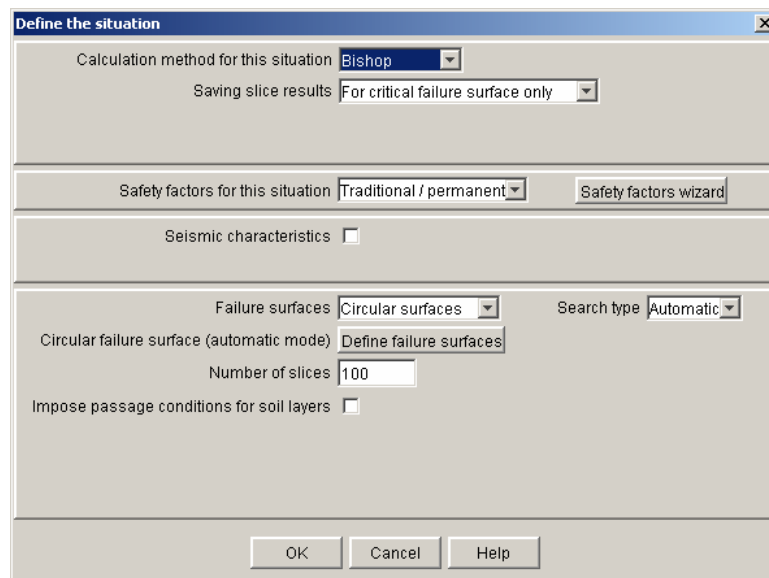
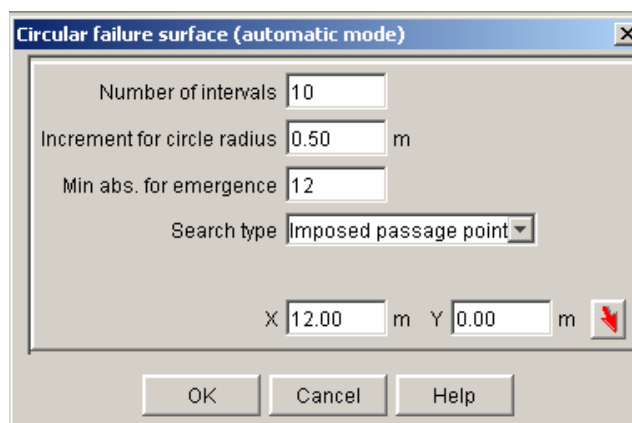

Figure 69: definition of the 1st situation for the 1st stage
Figure 70: definition of failure surfaces for the 1st situation of the 1st stage
selected set of conditions], or click on the toolbar button . Complete the dialogue box that appears with the following data (Figure 69 and Figure 70):
- Definition of failure surfaces: we will choose circular failure surfaces passing at the bottom of the excavation, with an automatic search. The corresponding data appear on Figure 69 and Figure 70 (we get to the screen of Figure 70 after selecting “Circular surfaces” and “Automatic search”, and then clicking on the button [Define failure surfaces]).
- Please remember: the imposed passage point can be selected on the graphical view after clicking on the button  in the dialogue box displayed on Figure 70).